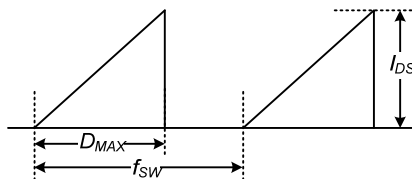

Figure 4. Repetitive Peak Switching Current
6. Repetitive peak switching current when the inductive load is assumed: Limited by maximum duty ( $D_{MAX}=0.74$ ) and junction temperature (see Figure 4. ).